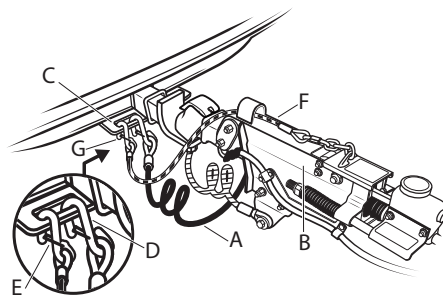

Figure 10
The right cable (A) crosses underneath the trailer tongue (B) and hooks to the left side of the tow vehicle permanent hitch (C), "D"-rings, frame or structure, or to the tow vehicle bumper brackets. (Figure 10) Do not attach cables to the ball or to a ball mount that is removable. The left cable hooks to the right side in the same manner. Crossing the cables under the tongue allows the minimum amount of slack for turning. The "S"-hooks (D) on safety CABLES should be hooked to attachment holes on the hitch, if present. For safety CHAINS the "S"-hooks can be hooked to the attachment holes or passed through these holes and hooked back to a link in the chain. Control safety CHAIN slack by hooking the chain back to itself or by twisting the links to shorten chain. Be sure the "S"-hooks have a functional spring clip retainer (E), or are secured with a rubber retainer. *The cables need slack to allow your vehicle to make turns. Make sure these cables attach securely to your tow vehicle and do not drag on the roadway.*
ATs with brakes have a third cable, called the emergency brake cable (F). (Figures 10 and 11) This cable applies the brakes automatically in the unlikely event of a separation of the AT from the tow vehicle. Attach this cable as close to the vehicle center as possible; to the tow vehicle permanent hitch, (C) "D"-rings, frame or structure, or to the bumper brackets. The "S"-hook (G) on this cable should be hooked to an attachment hole on the hitch, if present. Be sure the "S"-hook has a functional spring clip retainer, or is secured with a rubber retainer. *Some slack is necessary to prevent the emergency brake from activating on turns or inclined driveways.*